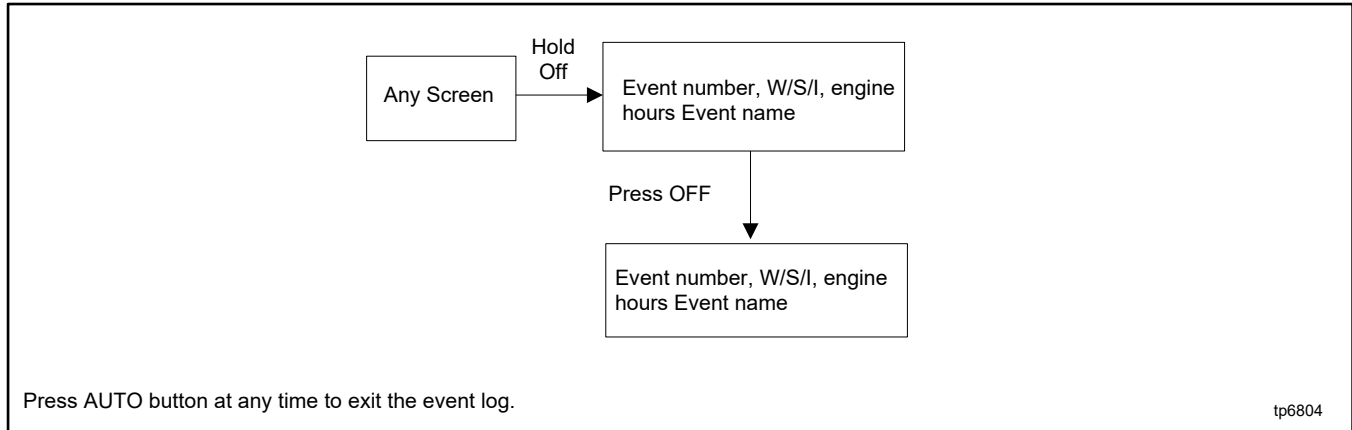

Figure 60 Event Log
The event log displays up to 10 controller faults and notices, starting with the most recent event. Events are numbered 1-10, with 1 being the most recent. Each event is displayed with the date and time of the event, the number of the event, a letter to indicate whether the event was a warning (W), shutdown (S), or informational notice (I), the engine hours at the time of the event, and the event description. See Figure 60.